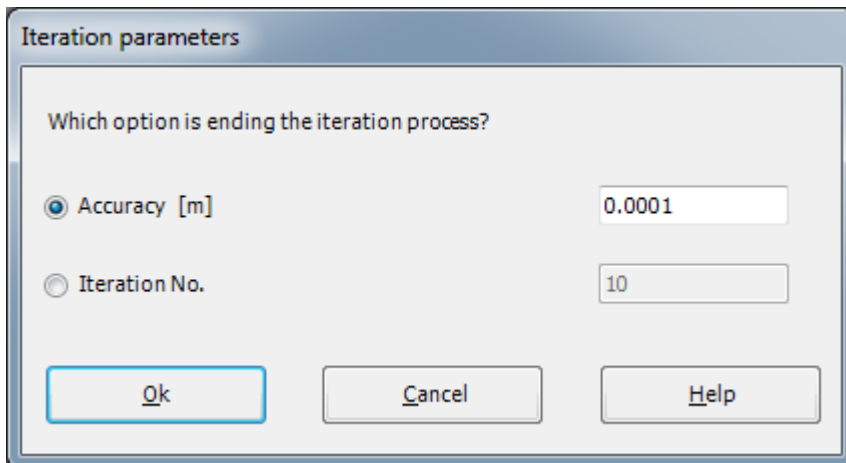

Figure 10.32 "Iteration parameters" option box
- Choose "Computation of all" command from in "Solver" Tab Window, the "Iteration parameters" option box will appear (Figure 10.32)